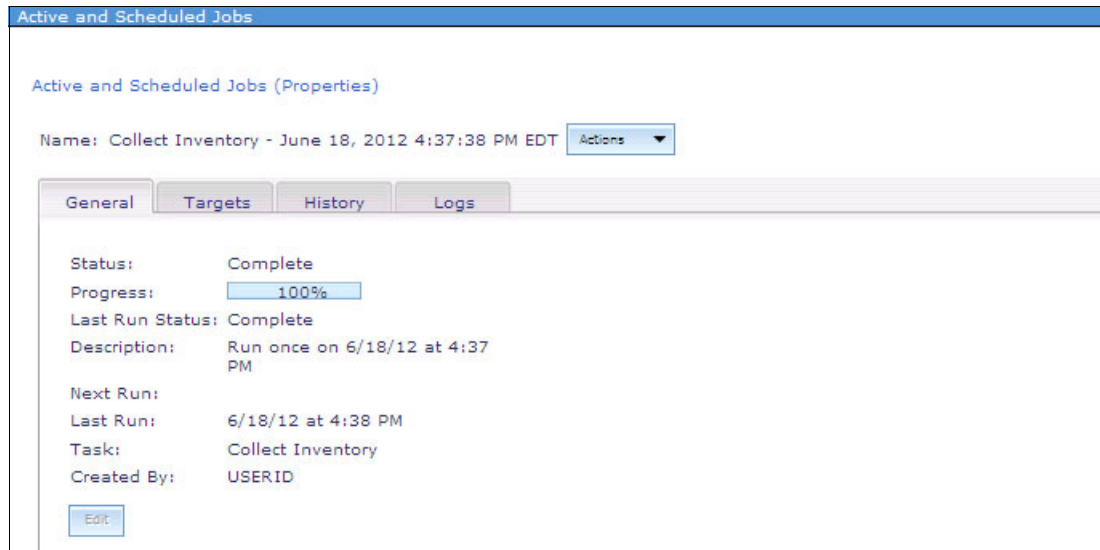
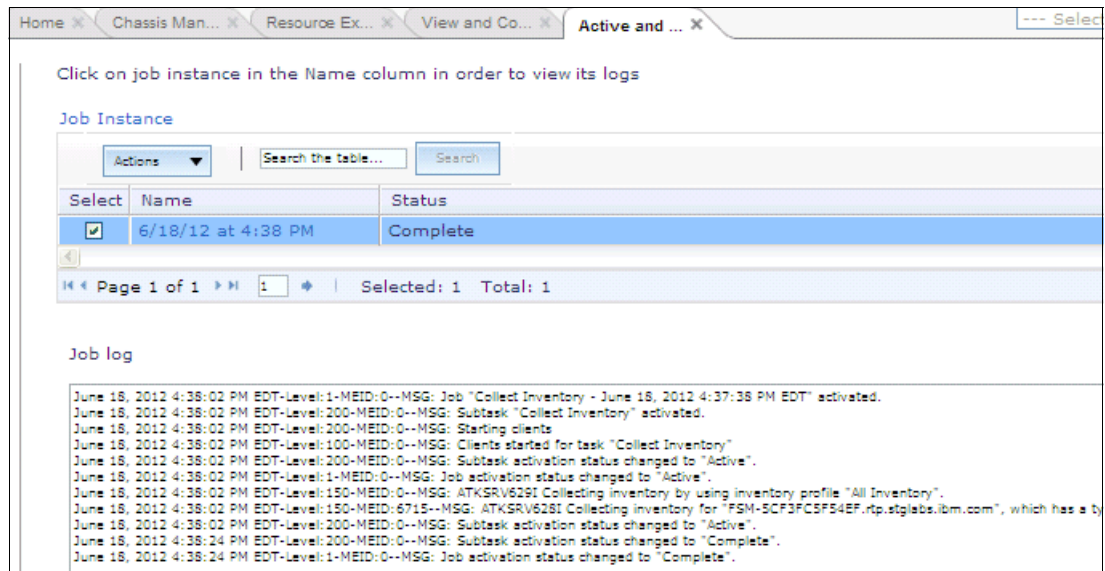

Figure 6-145 Collect Inventory on a farm object completed
Figure 6-146 Storage farm inventory collect log
Wait until it is complete as shown in Figure 6-145.
5. If some errors are displayed, click the **Logs** tab (Figure 6-145) to get more information, as shown in Figure 6-146.